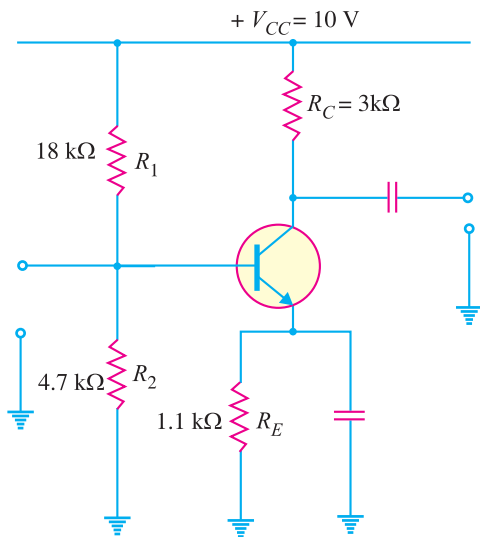

Fig. 9.52
9. Determine whether or not the circuit shown in Fig. 9.52 is midpoint biased. [Yes]